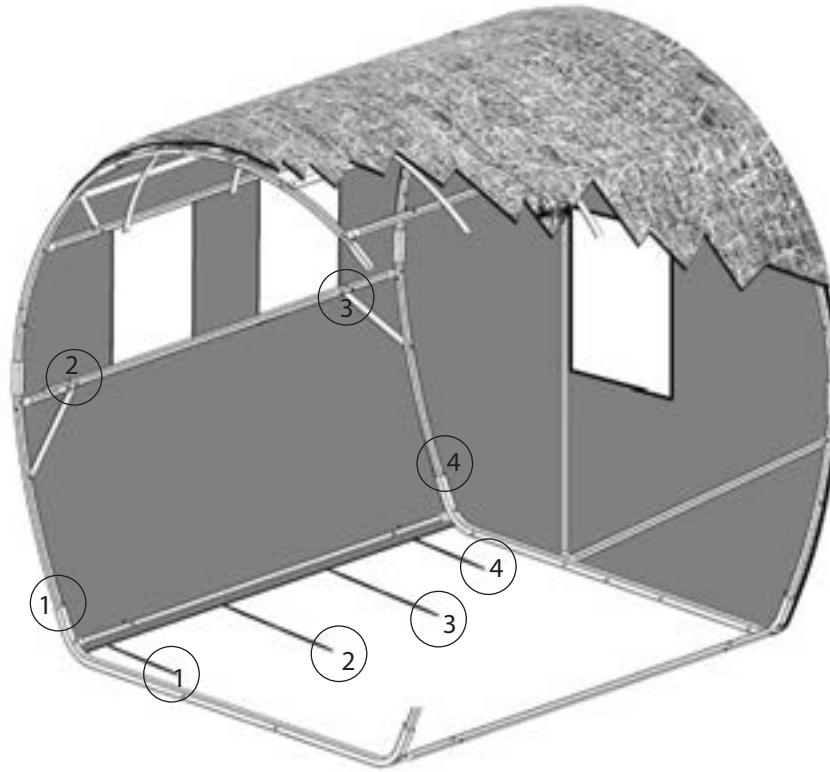

Figure 31.1
Locate the (4) bungee straps positioned along the bottom of one end of the COVER BLANKET "P". Attach each bungee strap to it's corresponding set screw located on the bale blind frame, as illustrated in Figure 31.1.